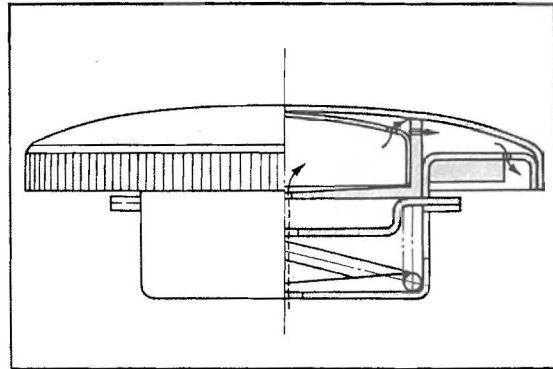

Fig. 6.15 Filler cap cross-section showing breath path
- (1) Note that a faulty flow is also caused by the dirty tank filler opening or lines. (Fig. 6.15)
- (2) The position "RES" is used when the fuel level is low. When the lever is turned from "ON" to "RES" the motorcycle may be driven from 50 to 60 km with the 1.8 liter reserve.